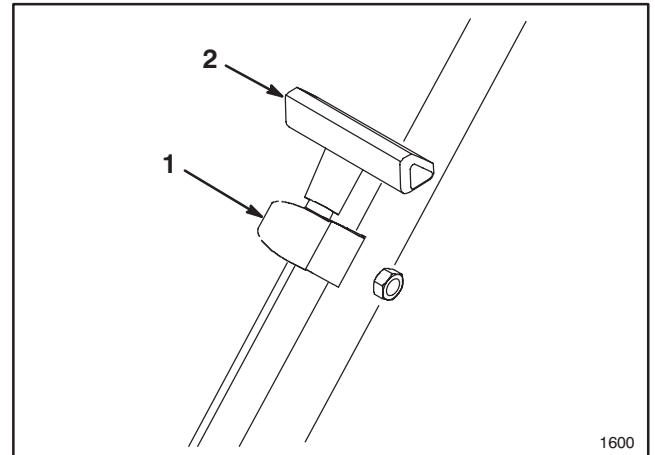

Figure 5
1. Pull the starter rope through the rope guide on the handle (Fig. 5). To make the rope easier to loop, squeeze the control bar on the handle to release the blade brake.